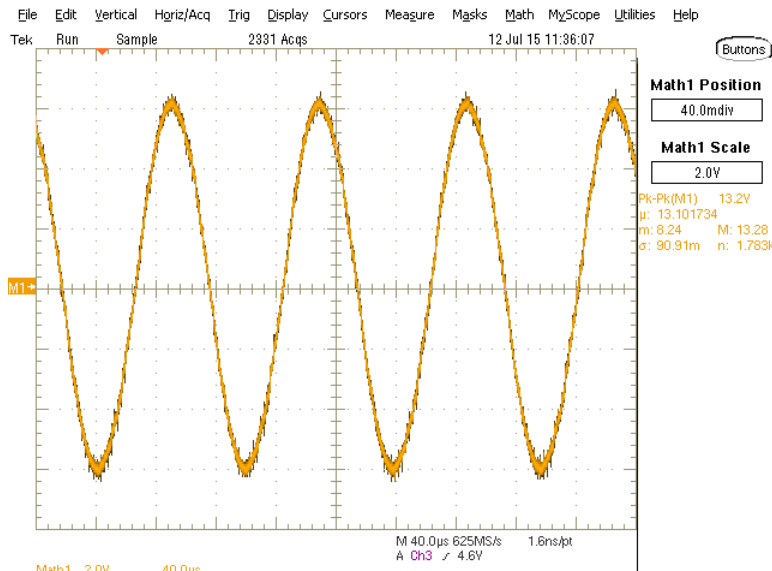

Figure 21. OE1-OE2 Differential Output from the Exciter With Updated Gain
Step 7. As shown in Figure 21, the amplitude of the waveform increased to approximately 13 V which corresponds with the new programmed gain of the exciter amplifier.